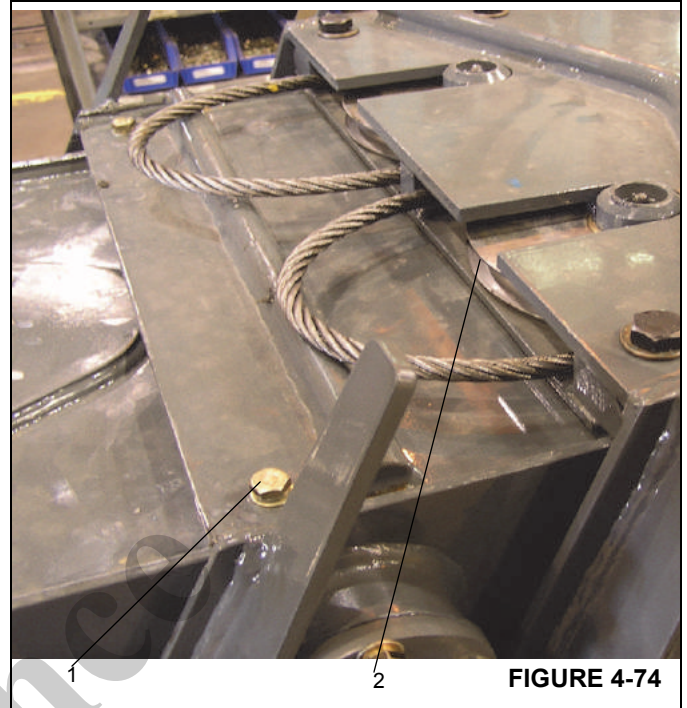

FIGURE 4-74
- 23. Install kickback plate on inside top Inner Mid section (Figure 4-74, 1).
- 24. Install the mid syncro cable sheave assembly (Figure 4-74, 2) to top inside of Inner Mid section.